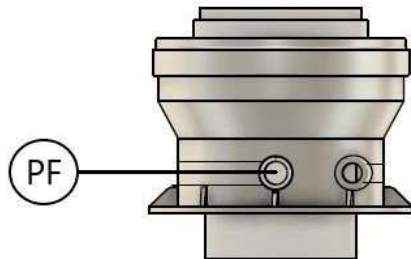
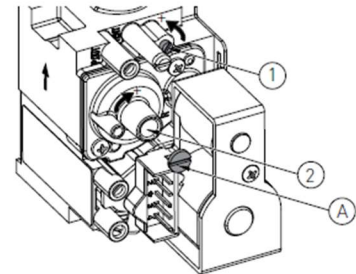

Figure 6.3
Figure 6.4
- Insert the flue gas analyzer probe (Figure 6.3) into the appropriate flue gas analysis fitting "PF", afterwards check whether the CO2 value corresponds to the one given in the "Technical menu" section, otherwise unscrew the protective screw "A" and adjust the screw "2" of the offset regulator (Figure 6.4) using the hexagonal wrench 4. In order to increase the value of CO2, it is necessary to rotate the screw clockwise, and to decrease it - counterclockwise. After completing the adjustment, tighten the safety screw "A" on the offset adjuster.
- Check whether the CO2 value corresponds to that given in the "Technical menu" section, otherwise adjust the screw "1" of the gas supply regulator (Figure 6.4). To increase the CO2 value rotate the screw counterclockwise and decrease it - clockwise.